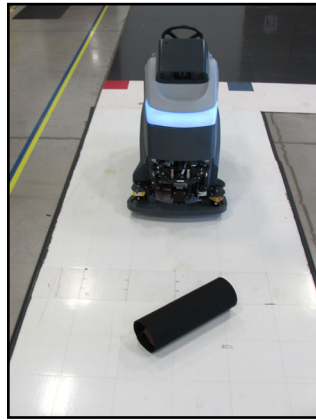
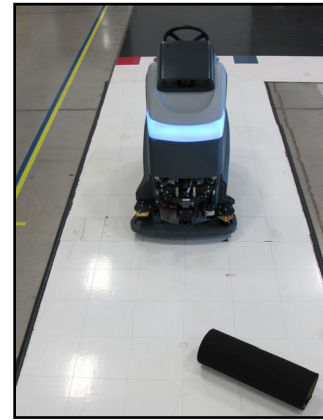

Figure 26: Center
Figure 27: Left
13. Once the machine has stopped, and before it kicks out of playback, move the cylinder so that it is approximately 1 meter (3 feet) ahead of the machine as shown in Figure 26: Center. The machine should resume playback and move toward the target cylinder and then stop before it contacts the target cylinder. (If the machine kicks out of playback, simply press the play button to resume playback). Repeat for the left side as shown in Figure 27: Left.